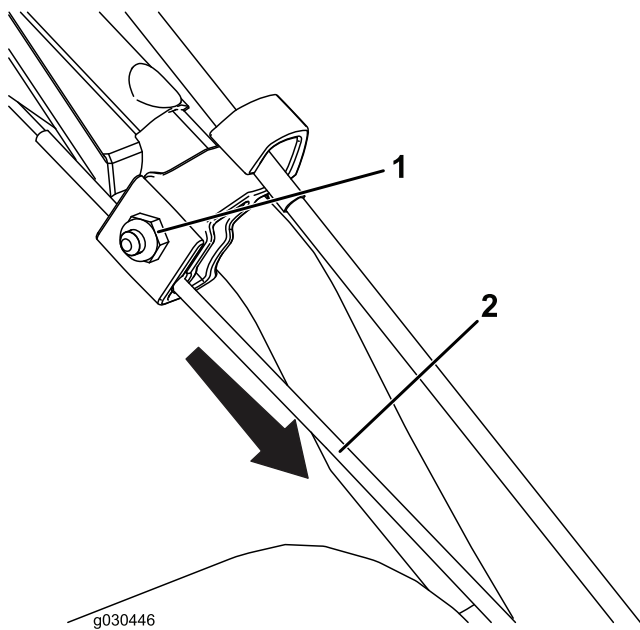

Figure 23
1. Loosen the nut on the upper cable clamp, but do not remove it (Figure 23).
2. Pull the cable down to remove most of the slack in the cable (Figure 23).
3. Tighten the nut (Figure 23).